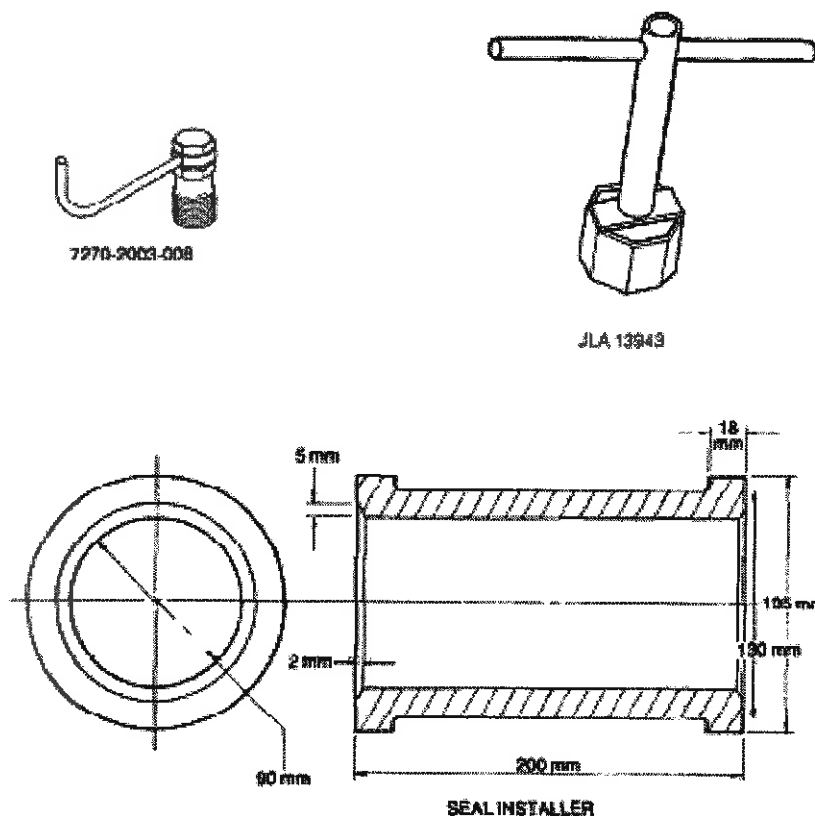

Figure 2 Special Tools
8. The removal of the hub cap, adjustment of the wheel bearings and injection pump timing require the use of special tools. The special tools required are listed in Table 2 and illustrated in Figure 2.